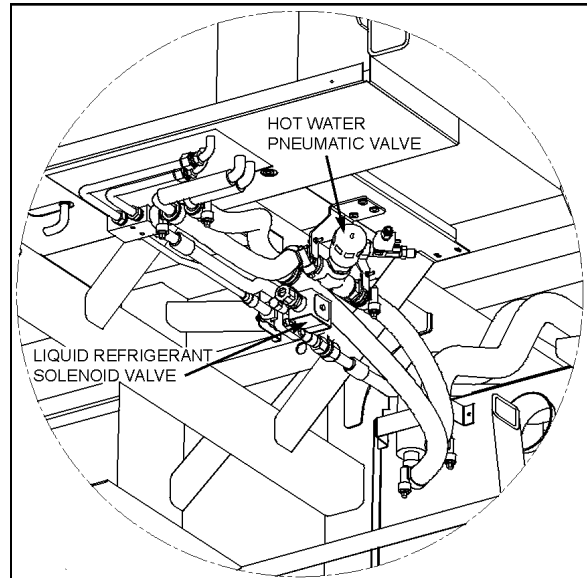

FIGURE 37: CEILING OF THE SPARE WHEEL COMPARTMENT 22324
2. Locate the normally open water pneumatic valve on the ceiling of the spare wheel compartment (Fig. 37), move the pilot-solenoid valve red tab to close the valve.